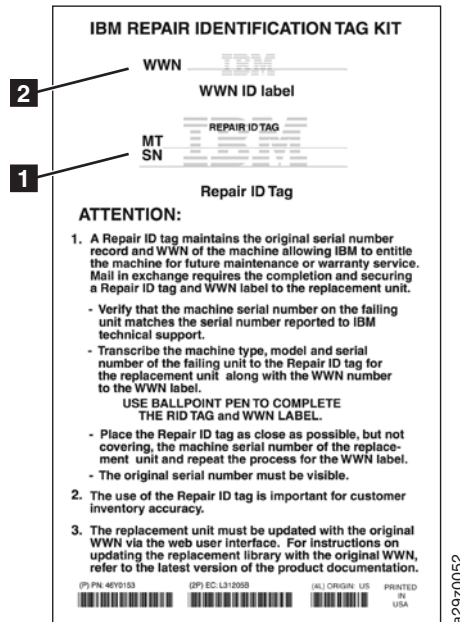

Figure 8-29. RID tag
1. Copy the machine type (MT) and serial number (SN) from the old library onto the Repair ID tag (1 in Figure 8-29).
2. Copy the Worldwide Name (WWN) from the old library onto the WWN ID label (2 in Figure 8-29).